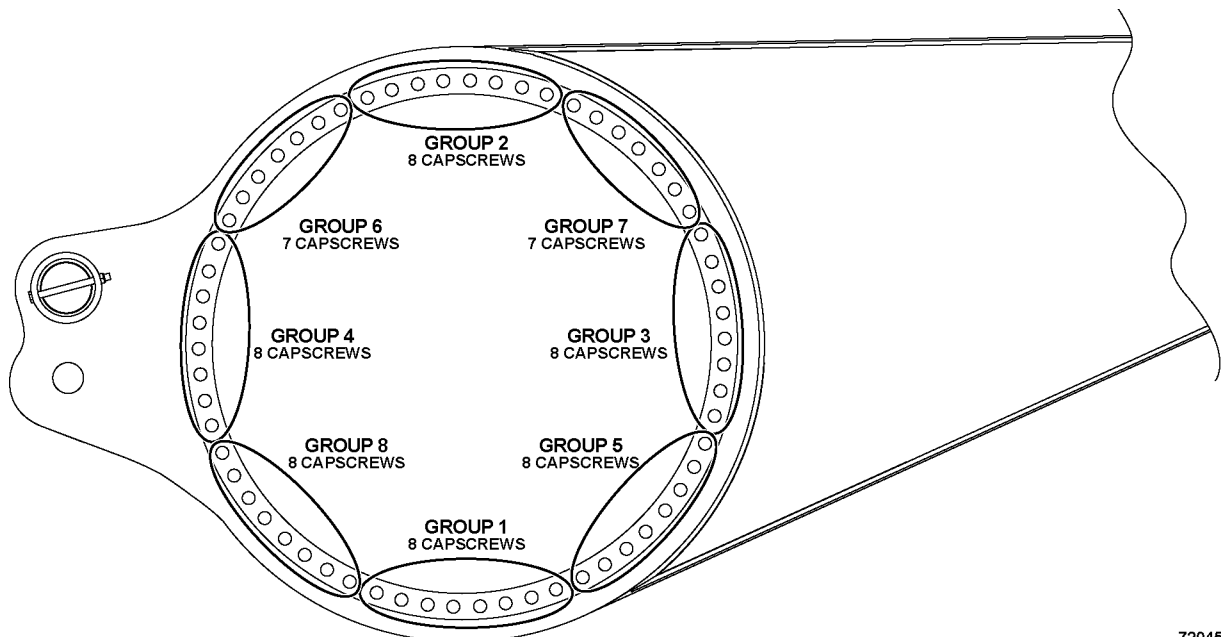

FIGURE 50-22. WHEEL MOTOR MOUNTING HARDWARE INSTALLATION SEQUENCE
7. Install the lubricated mounting hardware for Group 1, Figure 50-22. Tighten each cap screw to **542 N·m (400 ft lb)**.
8. Repeat steps 4 - 7 for each remaining group in the tightening sequence. Refer to Figure 50-22.